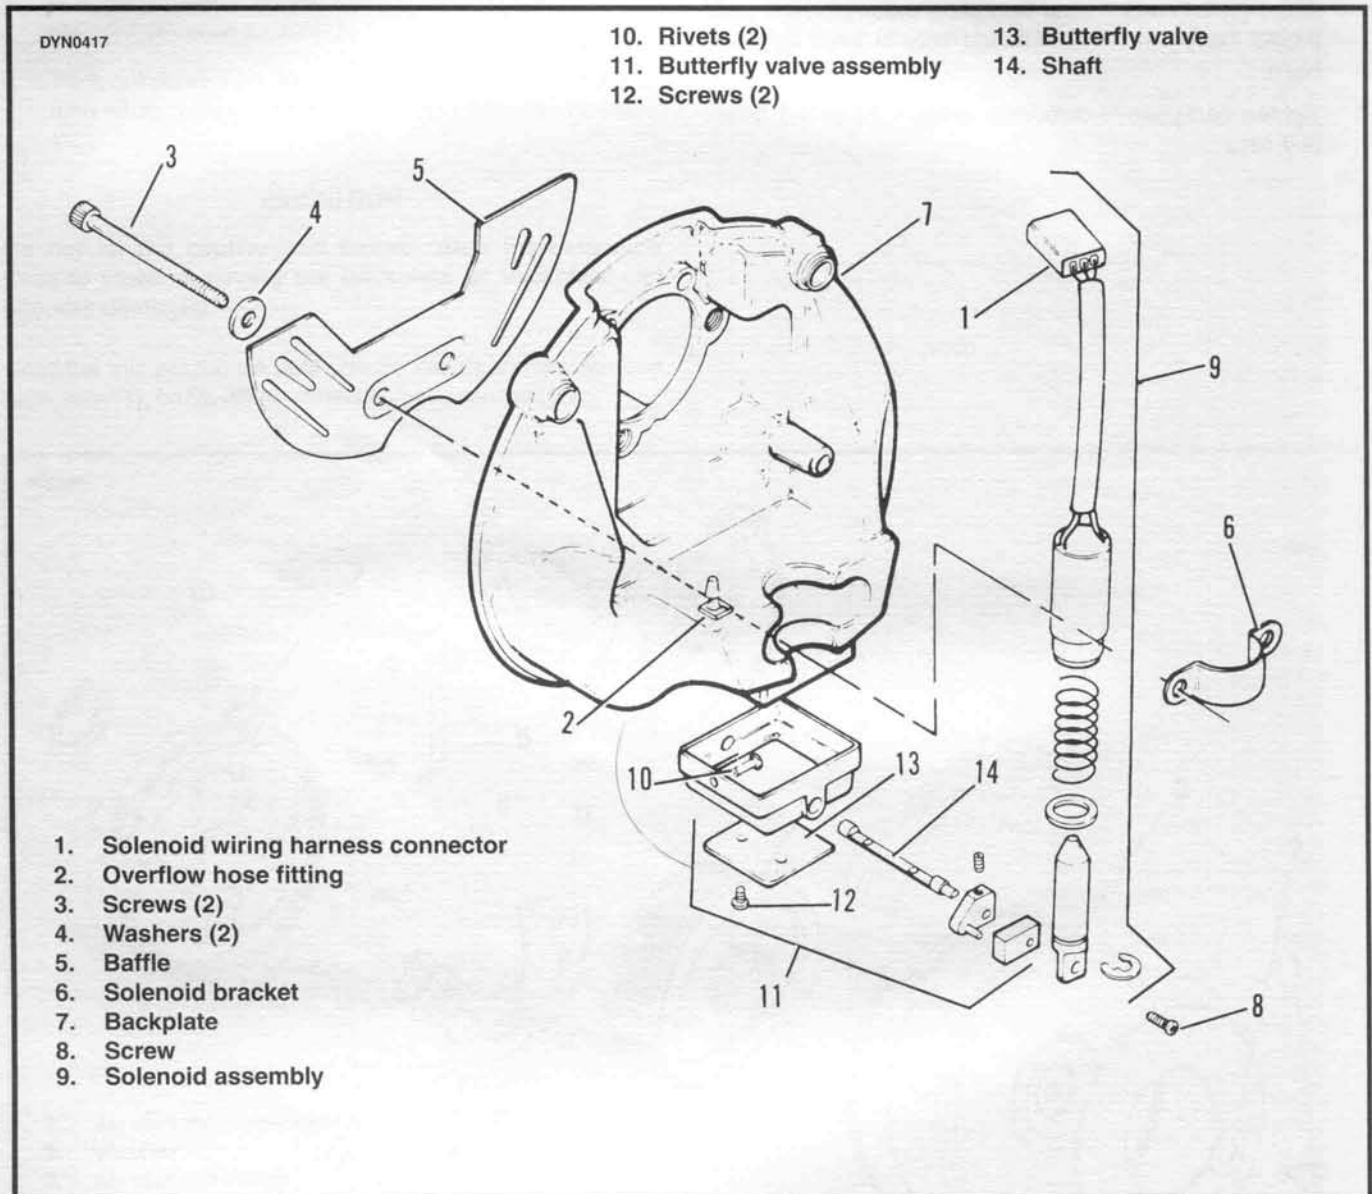

Figure 4-18. Air Cleaner Backplate Assembly
1. See Figure 4-18. After performing steps 1 through 5 under REMOVAL, disconnect the solenoid wiring harness connector (1). Remove overflow hose from hose fitting (2).
2. Remove screws (3) and washers (4) securing the baffle (5) and solenoid bracket (6) to the backplate (7). Remove solenoid plunger screw (8). Remove solenoid (9).
3. If necessary, the rivets (10) securing the butterfly valve assembly (11) to the backplate and the screws (12) securing the butterfly valve (13) to the shaft (14) can be replaced.